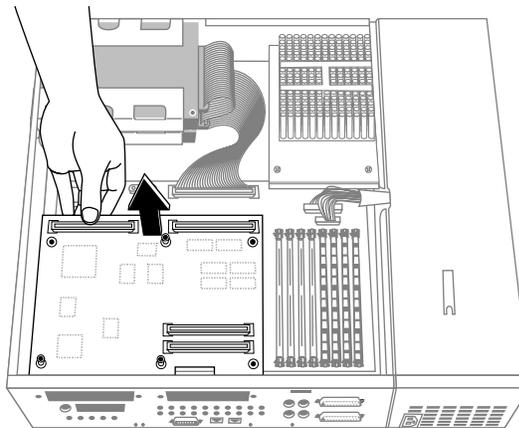

Figure 1-11 Disconnecting the Graphics Board From the System Board
9. Disconnect the graphics board from the system board, as shown in Figure 1-11.